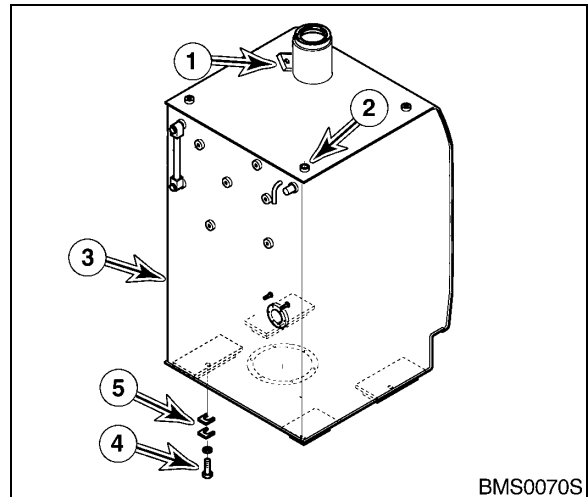

Figure 11
1. Install two 12 mm eye bolts in threaded holes (1 and 2, Figure 11). Using a suitable lifting device, sling eye bolts.
2. Set fuel tank (3, Figure 11) into position. Install six bolts and washers (4) finger tight, to secure tank to the frame.
3. Install shims (5, Figure 11) as needed to prevent tank (3) from rocking or stress from mounting bolts (4).
4. Tighten mounting bolts (4, Figure 11) after shims are installed.